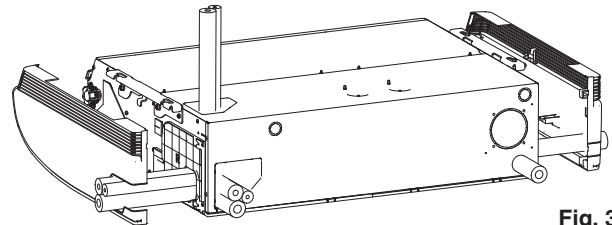

Fig. 3-18
- The positions of the refrigerant tubing connections are shown in the figure below. (The tubing can be routed in 3 directions.) (Fig. 3-18)
* If the drain hose is routed through the left side, refer to Fig. 3-18, and follow the procedure above to install the hose. Reattach the rubber stopper removed earlier onto the right side. The rubber stopper can be inserted easily by using a screwdriver or similar tool to press the stopper into the drain port on the main unit. Press the stopper into the main unit drain port as far as it will go.